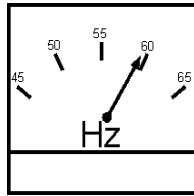

Figure 47. Frequency Meter
10. The generator's frequency meter (Figure 47) displays the 60 cycle output frequency in HERTZ.